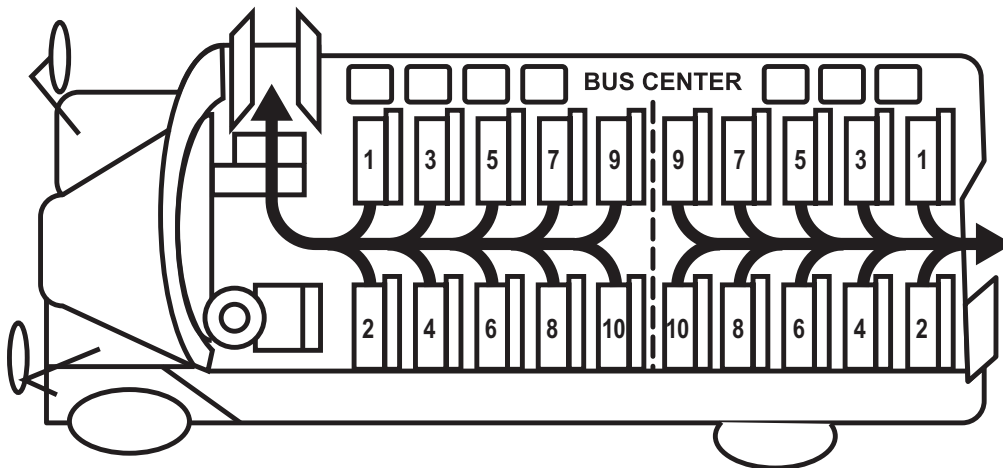

Figure 8-4. Evacuation Order for Front and Back Door Evacuation.
- For front and rear door exits, students in the front half of the bus will evacuate in the following order: right front seat, left front seat, and the rest of the seats from right to left. Students in the back half of the bus will evacuate in the following order: right back seat, left back seat, and the rest of the seats from right to left (Figure 8-4).